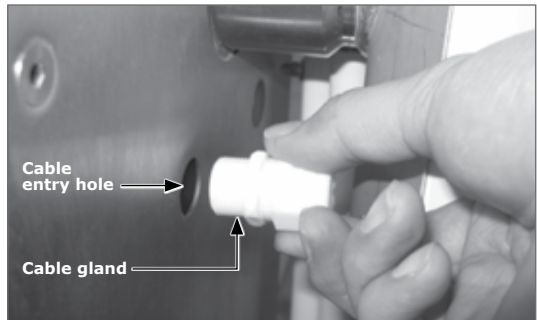

FIGURE 24
2. Fit the cable gland (supplied) into the opening as illustrated in Figure 24.